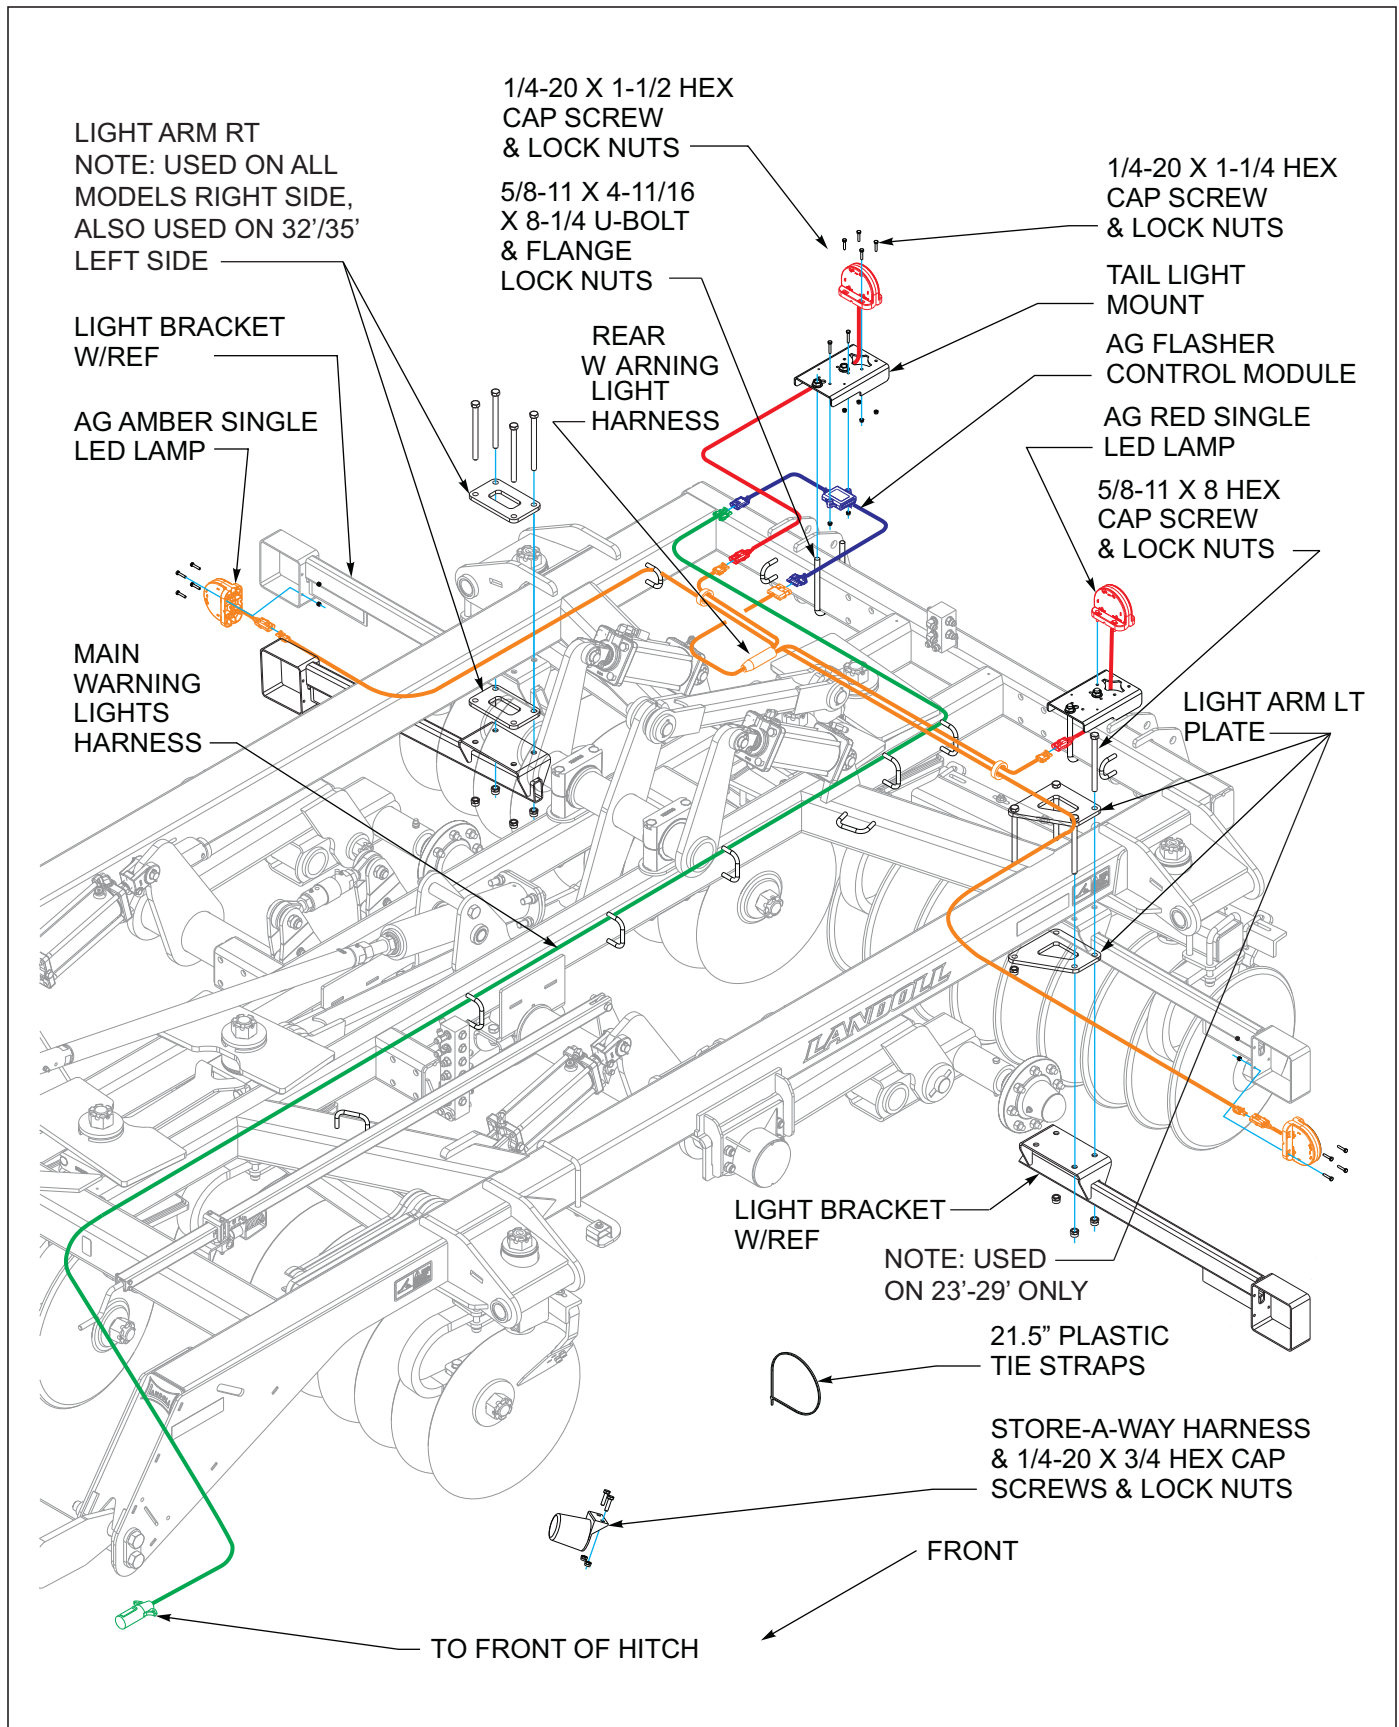

Figure 3-41: LED Light Installation
Refer to (See Figure 3-41.) for light bracket placements.
1. Attach left and right light brackets w/ref to center frame using 5/8-11 x 8 hex cap screws, light arm plates rt and lt (Note locations of plates See Figure 3-41.) and lock nuts. The yellow reflectors go to the front side (See Figure 3-41.) and attach left tail light mount to frame assembly using 5/8-11 x 4-11/16 x 8-1/4 u-bolts and 5/8-11 flange lock nuts.